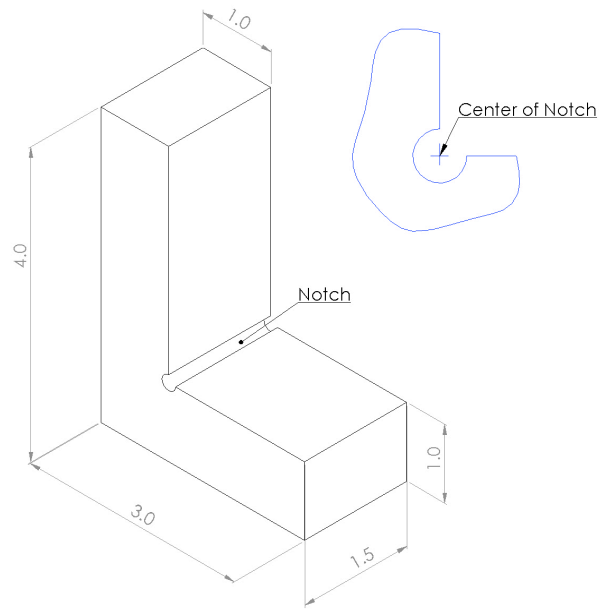

Figure 1 Part Dimensions
2. Design a single component as by drawings in Fig. 1.